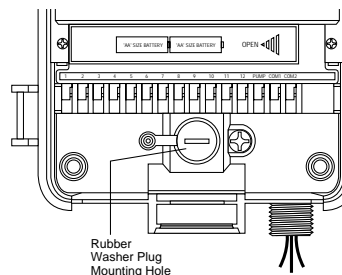

FIGURE 5: Controller Box Wiring Compartment
- Remove the rubber weather plug from the screw hole and push a No. 8 screw through the hole in the controller box [See Figure 5].
- Tighten the screw until the controller box is held securely in the wall, then put the rubber weather plug back into the hole [See Figure 5].